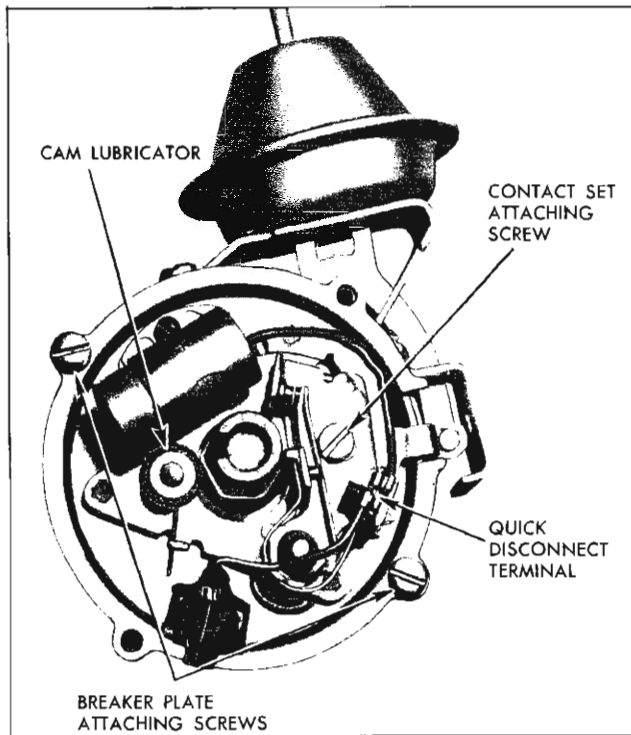

Fig. 42—Breaker Plate and Attaching Parts
Refer to Figures 42 through 44
3. Pull primary and condenser lead wires from contact point quick disconnect terminal (fig. 42).
Refer to Figure 42.
3. Scratch a realignment mark on distributor in line with rotor segment (fig. 42).